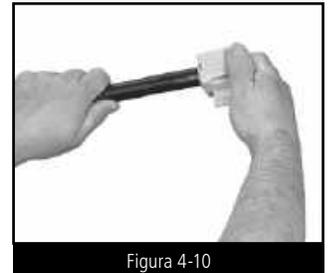

Figura 4-10
PASO 2 CORTE Y QUITE LAS CAPAS DEL ENCAMISADO (FIGURA 4-9, FIGURA 4-10, FIGURA 4-11)